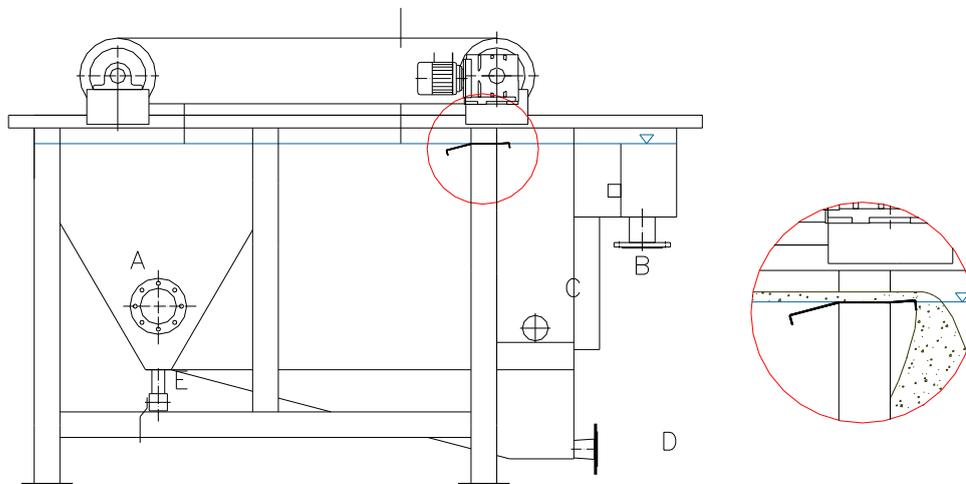

Fig. 4
3. The operating height of the flotation tank surface is given by the overflow wall level which is set so that the surface reached the lower area into the trough for floated sludge removal (Fig 4).